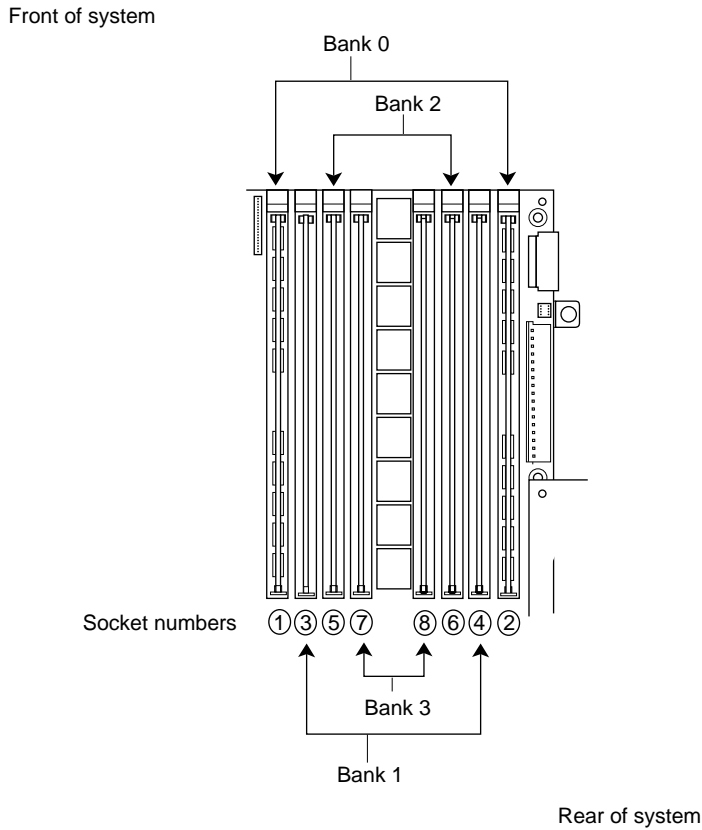

Figure 1-7 Layout of DIMM Sockets on the Origin200 Main System Board
Each Origin200 module can have between 32 MB and 2 GB of memory, depending upon the type of dual in-line memory module (DIMM) that you install. DIMMs are installed in sockets that are grouped into two banks of four sockets each. Figure 1-7 shows the layout of the DIMM sockets on the main system board.
- DIMM sockets are numbered, left to right in Figure 1-7: 1, 3, 5, 7, 8, 6, 4, 2.